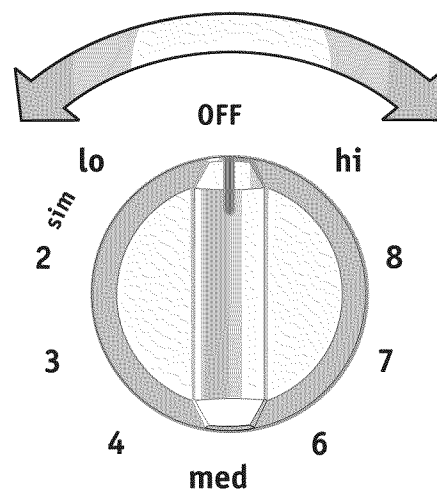

Figure 4 - Control knob shown is typical only.
2. Push in and turn the surface control knob in either direction to the desired setting (Figure 4). Start most cooking operations on a higher setting and then turn to a lower setting to finish cooking. Each surface element provides a constant amount of heat at each setting. A glowing red surface heating area extending beyond the bottom edge of the cookware indicates the cookware is **too small** for the surface heating area.